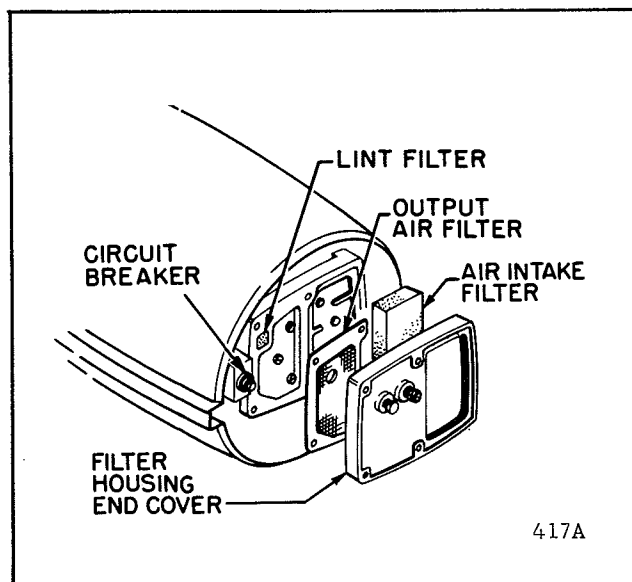

Figure 6. Access to Air Filter for Maintenance
4. To reach the output air filter, remove the four screws which attach the filter housing end cover. Lift the output air filter out. See Figure 6.